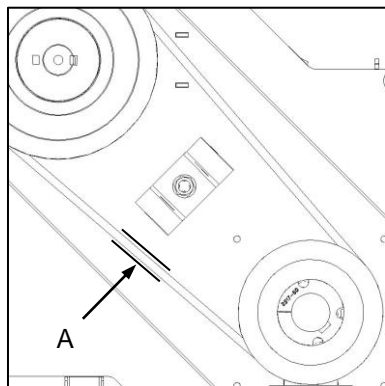

Fig. 10
- ⊖ Drive belt tension should be checked at the mid-point between pulley centres (Fig. 10-A). A deflection of  $\pm 20$  mm should be evident when single-finger pressure is applied to a single belt.
- ⊖ Dryfbandspanning moet halfpad tussen die katrolsentrus gekontroleer word (Fig. 10-A). Speling van  $\pm 20$  mm behoort met eenvingerdruk op 'n enkele band sigbaar te wees.